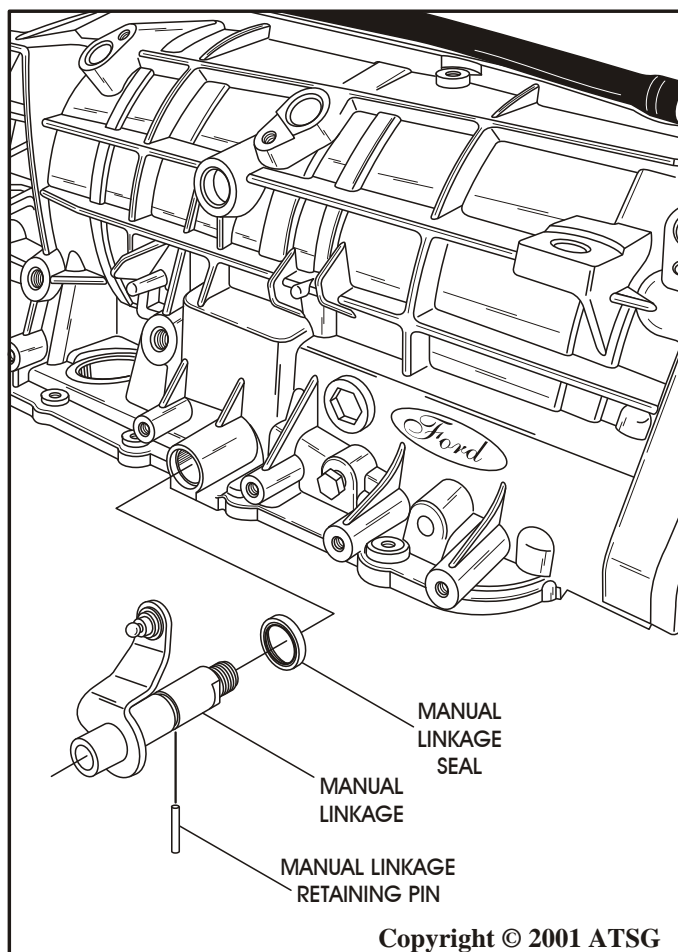

Figure 128
3. Install new manual lever seal into case using the appropriate seal driver (See Figure 128).